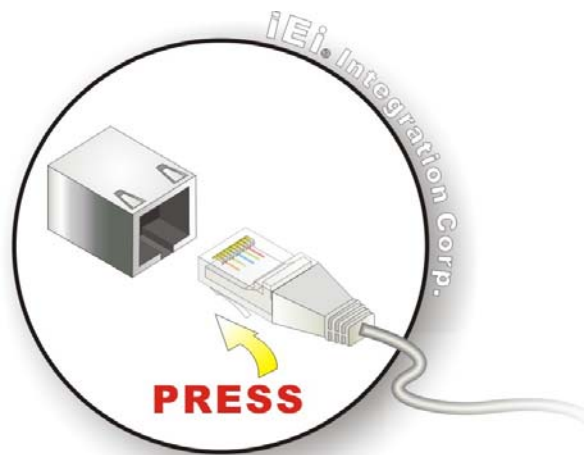

Figure 3-42: LAN Connection
- Step 2:** **Align the connectors.** Align the RJ-45 connector on the LAN cable with one of the RJ-45 connectors on the PPC-37xxA-N26. See **Figure 3-42**.